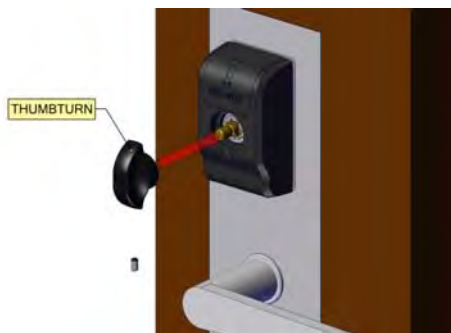

Fig. 18
**Step 8:** Install thumbturn (Fig. 18), set screw (Fig. 19), and re-install door edge trim (Fig. 20).